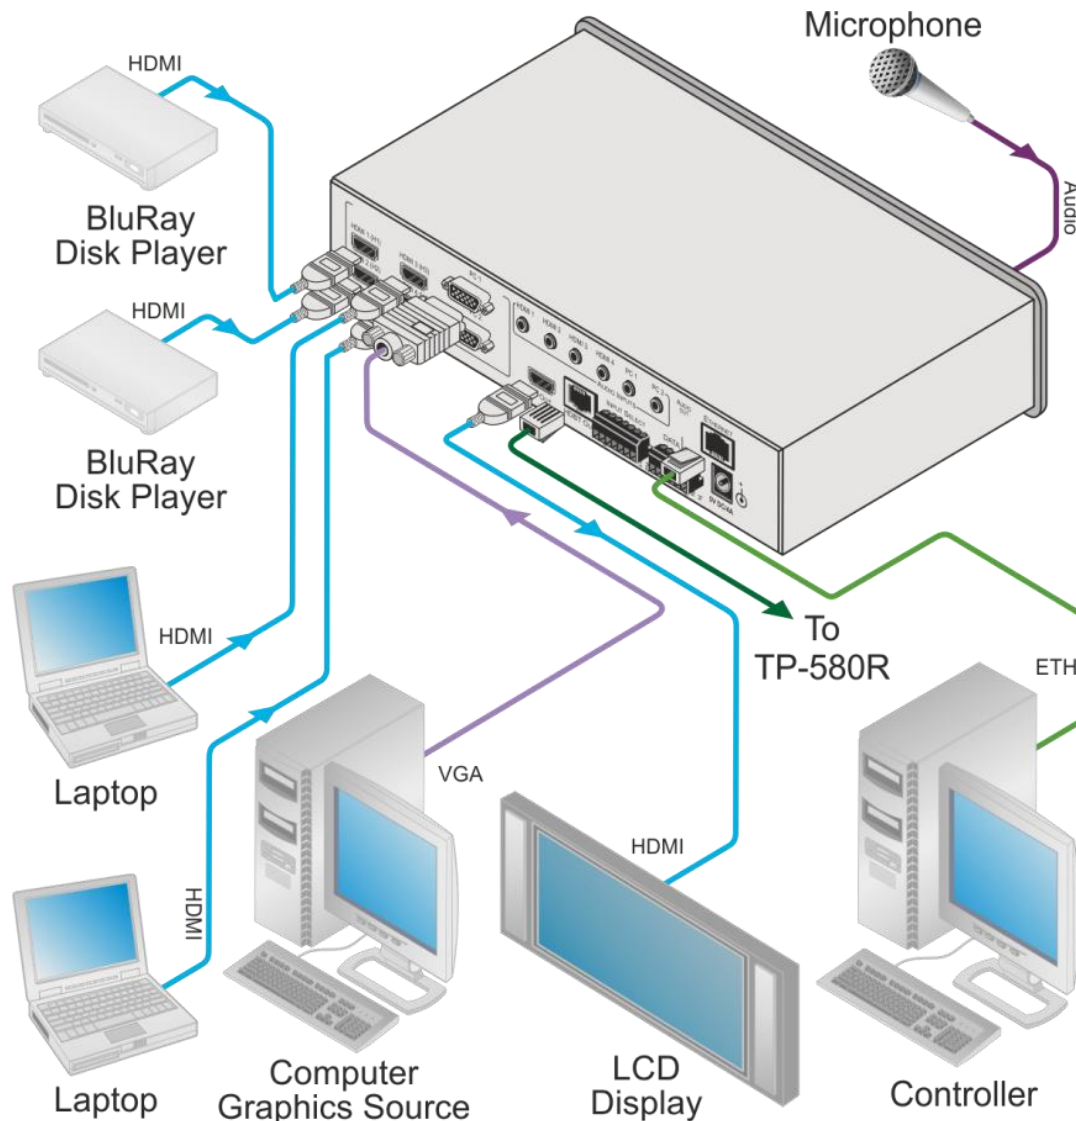

Figure 3: Connecting the VP-440 Presentation Switcher / Scaler
To connect the **VP-440**, as illustrated in the example in Figure 3, do the following:
2. Connect a computer graphics source to the PC 1 15-pin HD VIDEO INPUT connector ⑩ (from 1 to 2).
3. Connect the audio input signals to the AUDIO INPUT 3.5mm mini jack connectors (11) & (12), as required (not shown in Figure 3).
4. Connect the HDMI OUT connector (15) to an HDMI acceptor (for example, an LCD display).
5. Connect the HDBT OUT (16) connector to an HDBT receiver.
6. Connect the AUDIO OUT 3.5mm mini jack connector (13) to an unbalanced stereo audio acceptor (not shown in Figure 3).
7. On the front panel, connect a microphone to the MIC 6.3mm phone jack (2) and set it to condenser or dynamic type.
8. Connect the power cord (20) (not shown in Figure 3).